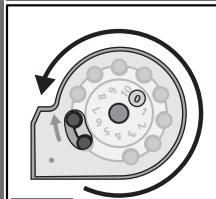

Fig. 7d
- Rotate the cover counter-clockwise and place the remaining pellets into the magazine. Once full, lock the cover at the starting position and the magazine is now ready for use. (Fig. 7d)